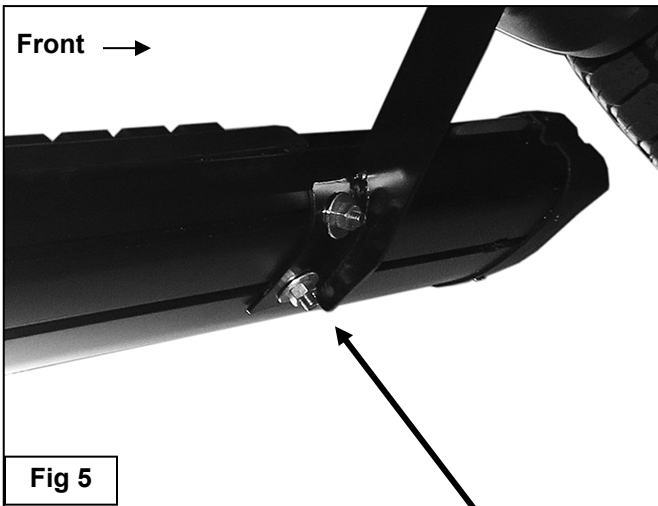

Fig 5
- Line up the front of the Sidebar approximately 2" back, (or locate as desired), from the front wheel opening. Attach the Sidebar to the Mounting Brackets with (4) 8mm Flat Washers, (4) 8mm Lock Washers and (4) 8mm Hex Nuts, **(Figure 5)**. Do not tighten hardware at this time.